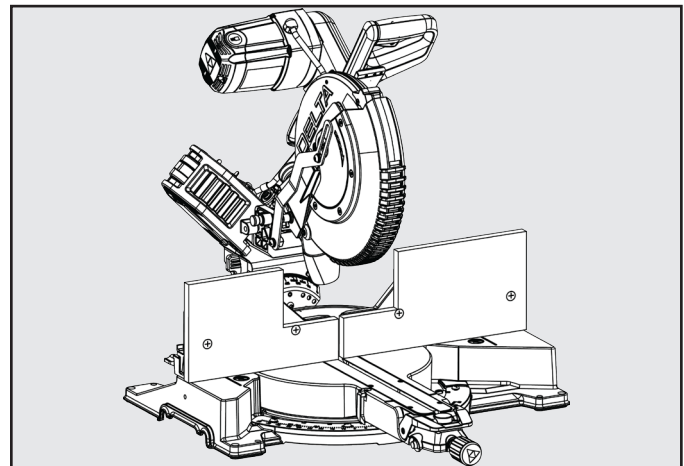

Figure 24
2. Place auxiliary fence wood against miter saw fence. See figure 24. The maximum height for this wood must not exceed 6.5". Check to make sure auxiliary fence does make contact with saw head, check with saw head in the full DOWN and fully RETRACTED position.